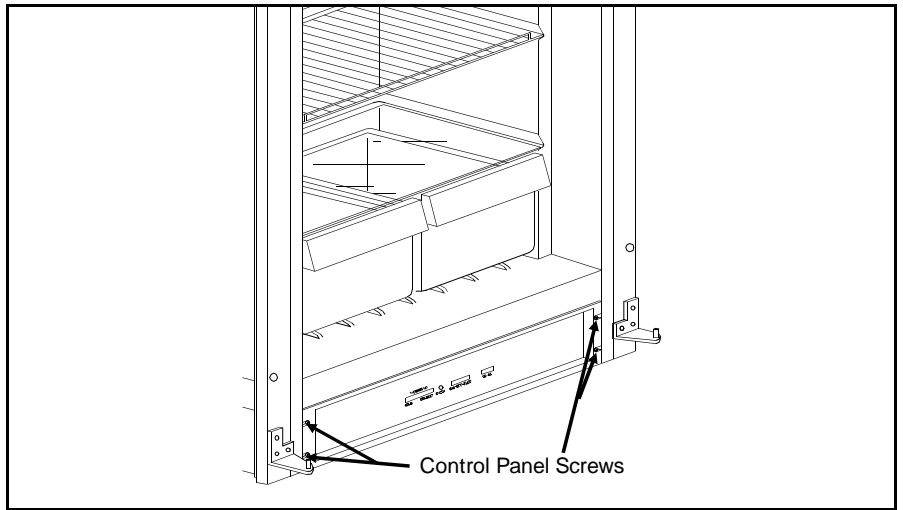

Figure 4.43 Access to PC Board
- 6. Remove the four (4) control panel screws shown in Figure 4.43.